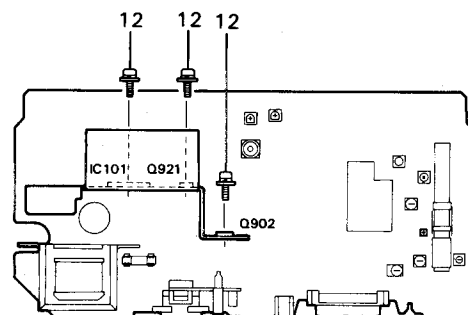

Fig. 7-11
■ Heat Sink (refer to Fig. 7-11)
1. Remove the three screws (12) retaining the IC101 and Q902, Q921 from the heat sink.